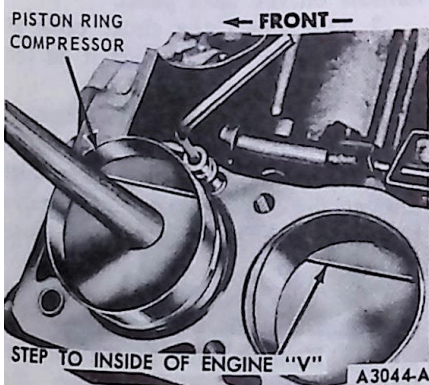

FIG. 26 Installing Piston
4. Install a piston ring compressor on the piston and push the piston in with a hammer handle until it is slightly below the top of the cylinder (Fig. 26). Be sure to guide the connecting rods to avoid damaging the crankshaft journals. Install the piston with the step toward the inside of the engine V.